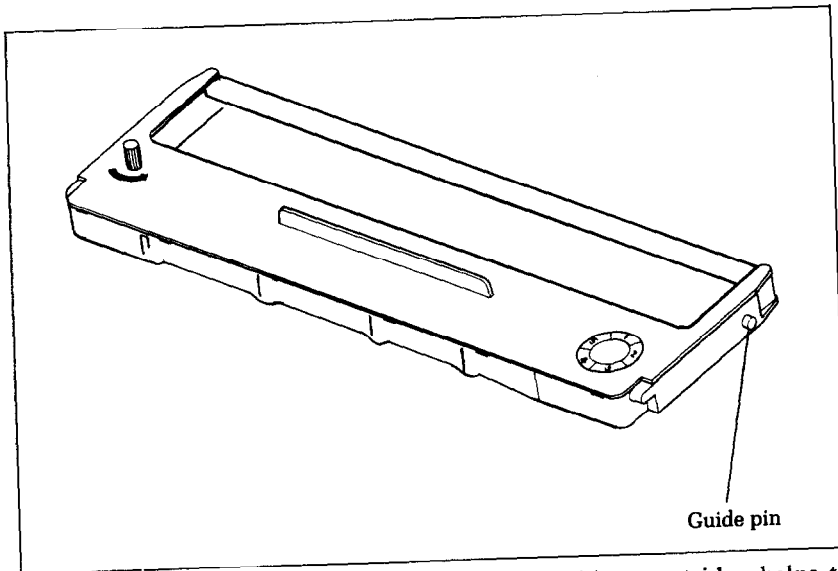

Figure 1-5. A guide pin on each side of the ribbon cartridge helps to align the cartridge during installation.
3. Note the position of the guide pins on the cartridge as shown in Figure 1-5. Then hold the cartridge at each end, with the ribbon facing away from you, and insert the guide pins into the cut-out hooks of the printer frame. You'll find this easier if you tilt the cartridge forward as you do this, as Figure 1-6 shows.